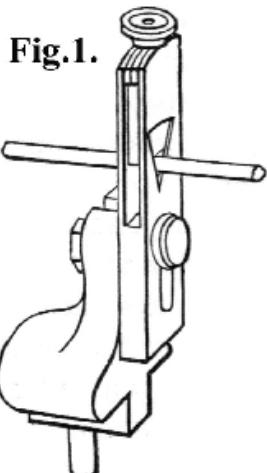
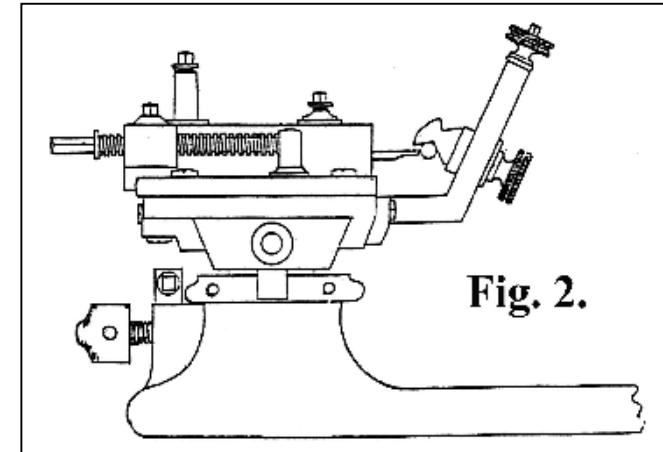

Fig.1.
Fig. 2.
A. ---The slender turning guide is for turning long and very slim pieces. It bolts either on the lathe bed (Fig. 1.) or directly onto the front of
the carriage of the tool-slide (Fig. 2.) and embraces (or hooks around) a slender rod of wood, plastic or ivory so it can be turned down to an incredibly small diameter. Take a fairly thick rod, say $\frac{1}{4}$ " or more diameter, held in the chuck and supported by the tailstock; then start turning at the right-hand end with the guide positioned on the un-cut part of the material just to the left of the cutter. With Fig.1. when the first cut is finished, re-position the guide towards the left to expose another short section of un-cut material then cut the next part immediately to the left of the cut section, and so on. The improved guide (made by J.H.Evans - see Fig. 2.) is attached to the carriage of the slide-rest; the guide just slides along the rod as the carriage is moved towards the headstock. It is similar in principle to a bar-feed lathe except the material is not fed through the headstock but it is fed through the guide as the slide-rest moves towards the headstock.